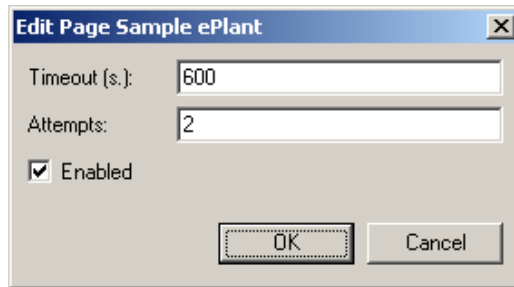

Figure 118. Edit Destination Dialog Box
12. Click **Edit** and the Edit Destination dialog box shown in Figure 118 appears.